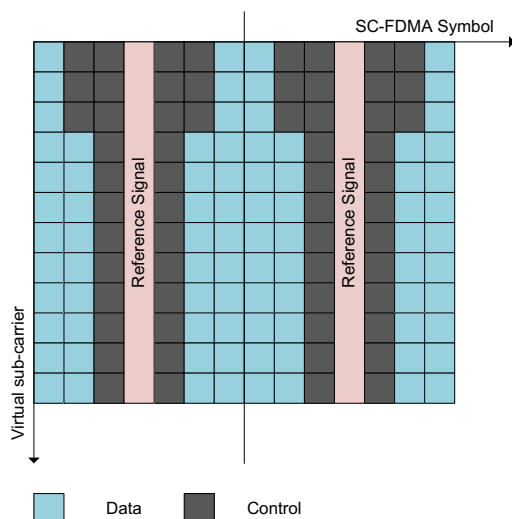

Figure 1. Example of data and control multiplex structure according to TS36.212
The current description of TS36.212 shows that the control information is multiplexed with rate matched data information so that control information is always positioned near the Reference Signal (RS). Although the current description does not show the multiplexing structure when ACK/NACK is also to be multiplexed, the rate matched data and control information should not be configured differently depending on whether ACK/NACK is to be multiplexed or not. This is because the ACK/NACK should be punctured into the data and control multiplexed bit stream, to avoid erroneous exceptions in the UE procedure. This is shown in figure 1. In figure 1, virtual subcarrier is the logical input indices to the DFT transform which output is mapped to the physical subcarriers of the IFFT input in SC-FDMA. We have dubbed them virtual sub-carriers since they do not actually represent the physical subcarriers.